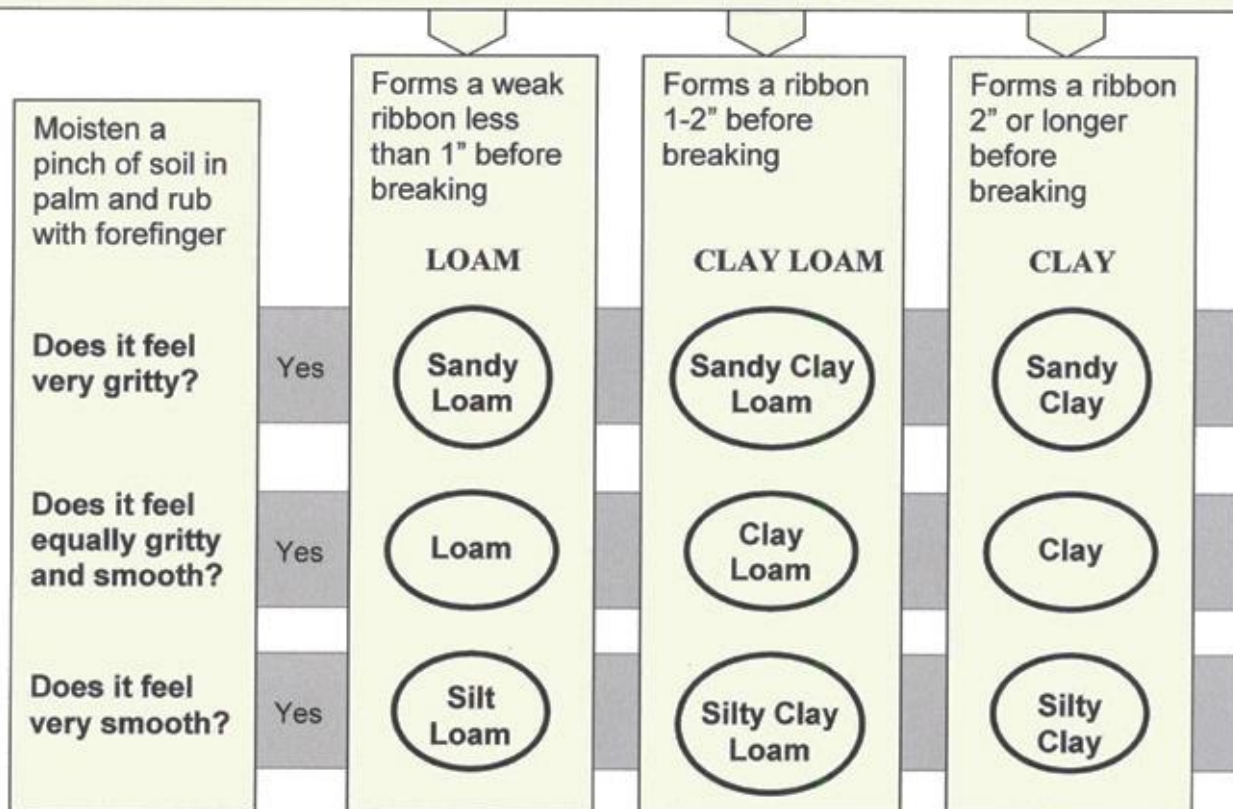

Figure 7. Diagram of the steps to conduct the feel method to determine the texture of a soil sample. Source: CMG GardenNotes #214, Colorado State University.
2. Use the feel-test method to determine the texture of each of the soil layers you found in the soil core. Use the flow diagram in the next page (Figure 7).